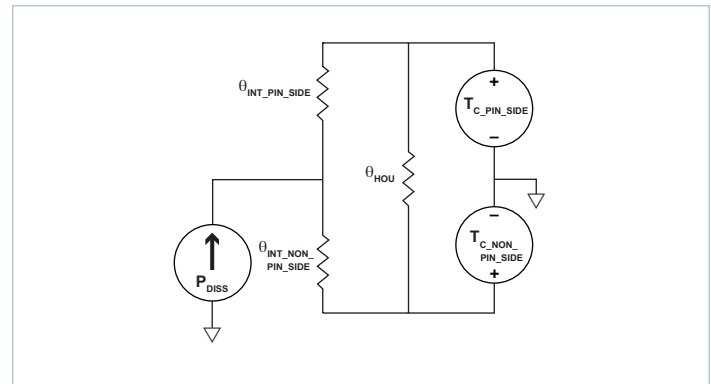
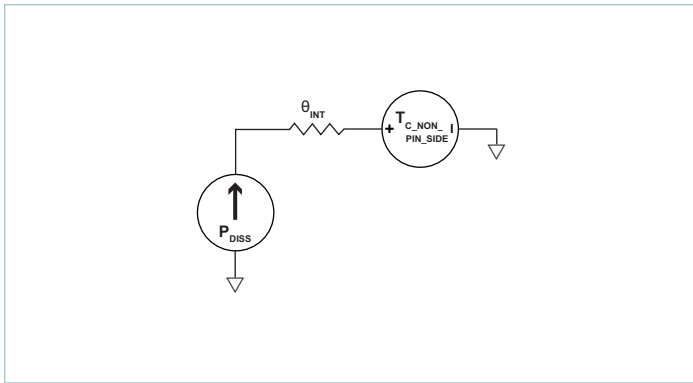

Figure 22 — Double-sided cooling thermal model
Figure 23 — Single-sided cooling thermal model
The VIA package provides effective conduction cooling from either of the two module surfaces. Heat may be removed from the pin-side surface, the non-pin-side surface or both. The extent to which these two surfaces are cooled is a key component for determining the maximum power that can be processed by a NBM, as can be seen from the specified thermal operating area in Figure 1. Since the NBM has a maximum internal temperature rating, it is necessary to estimate this temperature based on a system-level thermal solution. For this purpose, it is helpful to simplify the thermal solution into a roughly equivalent circuit where power dissipation is modeled as a current source, isothermal surface temperatures are represented as voltage sources and the thermal resistances are represented as resistors. Figure 22 shows the “thermal circuit” for the NBM in a VIA package.
- Single-side cooling: the model of Figure 22 can be simplified by calculating the parallel resistor network and using one simple thermal resistance number and the internal power dissipation curves; an example for non-pin-side cooling only is shown in Figure 23.